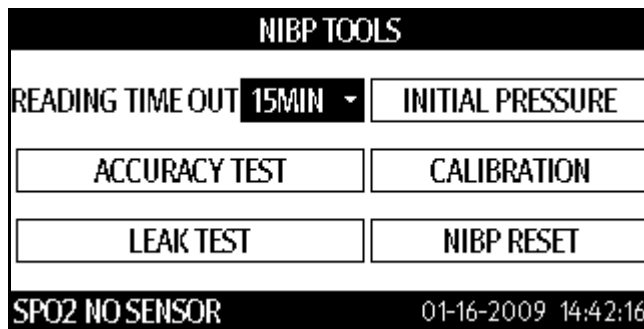

FIGURE 3-9 NIBP TOOLS Dialog
4. Press (16) or (19) to highlight **NIBP TOOLS** to display the NIBP TOOLS dialog as shown in FIGURE 3-9.
5. Once **NIBP TOOLS** is highlighted, press (18) to display the NIBP TOOLS dialog.
NOTE: The **ACCURACY TEST**, **LEAK TEST**, and **CALIBRATION** selection shown the NIBP TOOLS dialog (FIGURE 3-9) are explained in the Service Manual, part number 0070-10-0702. Calibration should be carried out by qualified personnel only.